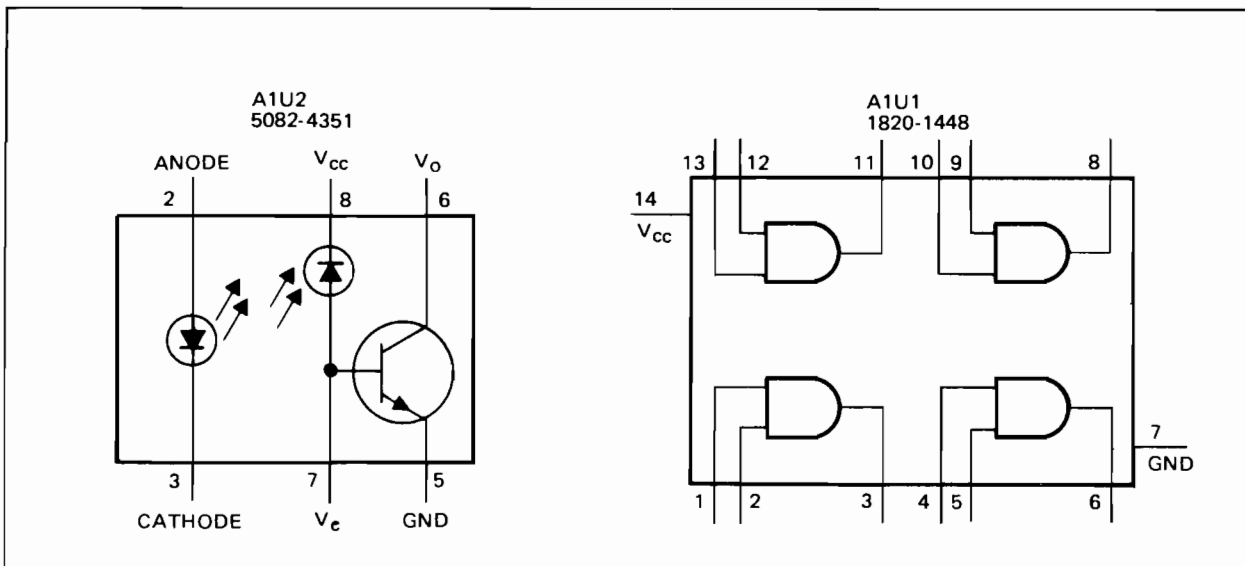

Figure 3-17. AIU1 and AIU2 Configurations
When A5U1-14 is high, A5Q5 turns on pulling AIU2-3 to ground (GND). AIU2-2 returns via AI9 to +5V (L) on the mother board. This turns on U2, an OPTO-isolator, causing AIU2-6 to be pulled low to REF GND (AIU2-5). Note the change in references. REF GND is the reference for the preregulator drive and GND is the reference for the control board. The action of the OPTO-isolator allows this shift in references. The configuration for U1 and U2 are shown in Figure 3-17.